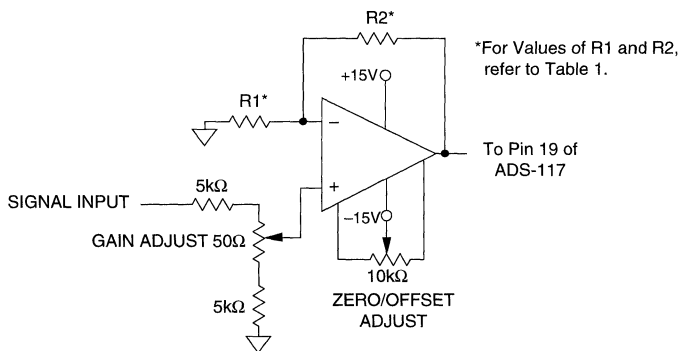

Figure 4. Optional Calibration Circuit
④ For ±12V, +5V operation, contact DATEL.
① See Table 1 also.
1. Applications which are unaffected by endpoint errors or remove them through software will use the typical connections shown in Figure 3. Remove system errors or adjust the small initial errors of the ADS-117 to zero using the optional external circuitry shown in Figure 4. The external adjustment circuit has no effect on the throughput rate.
1. Connect the converter per Figure 3, Figure 4, and Table 1 for the appropriate input range. Apply a pulse of 150 nanoseconds to the START CONVERT input (pin 16) at a rate of 250kHz. This rate is chosen to reduce flicker if LED's are used on the outputs for calibration purposes.